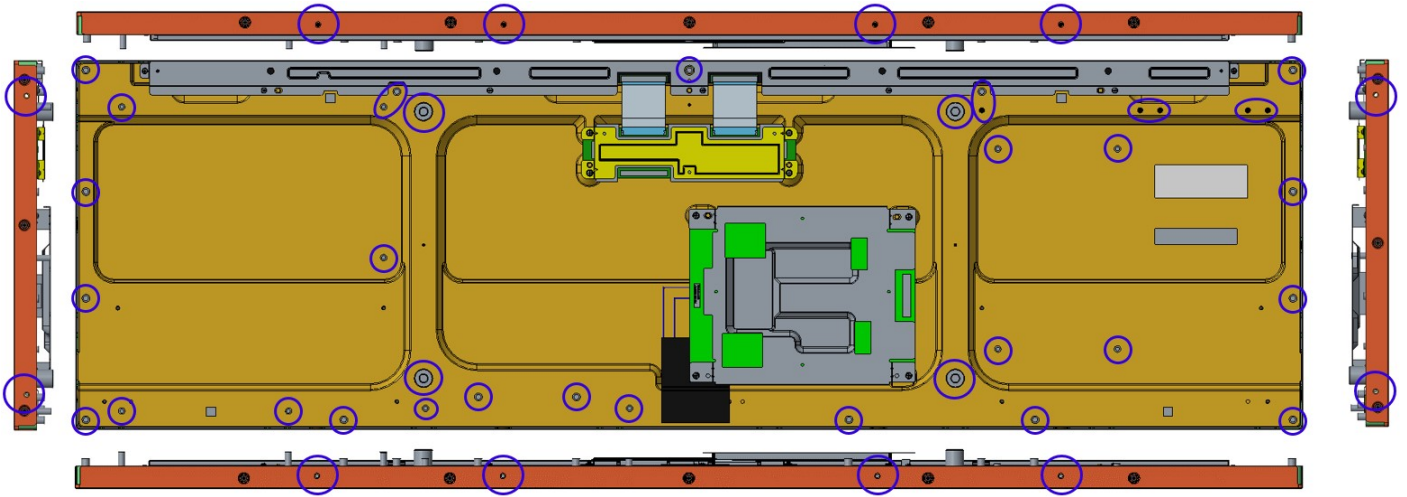

Figure 7.4
- [1] INX module dust test is conducted with marked holes (see Figure 7.4, marked with a water blue) sealed to comply with JIS D 0207.